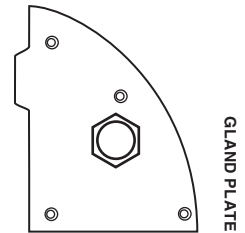

Figure 2
- Drill a 32mm hole in the pool wall (vinyl / fibreglass conversion kit PN 26601 required) at 550mm below top of coping. This is where the power cord will pass through the wall. See figure 2.